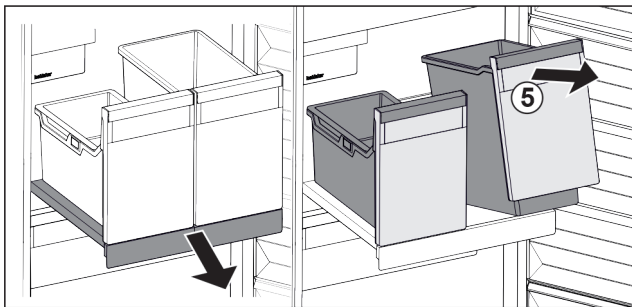

Fig. 80
- ▶ Lift the container Fig. 80 (5) at the front.